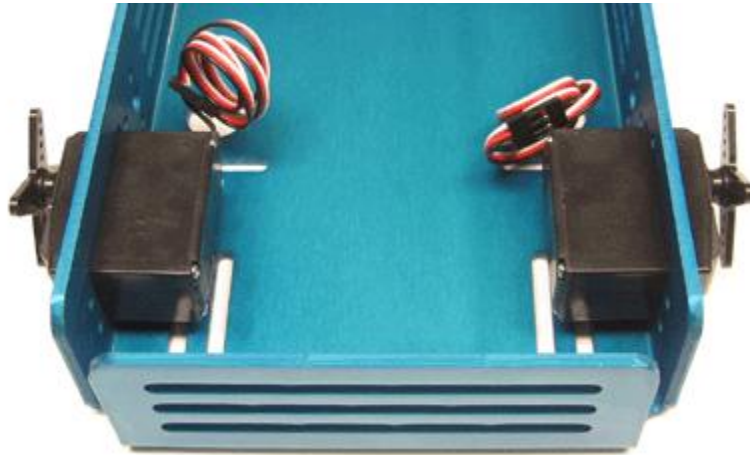

Figure 3. Servo motors correctly positioned in chassis.
1. Insert the servos into the chassis, as shown in Figure 3. **NOTE: Be sure to orient the *servo motors* exactly as shown, with the wires protruding near the two round holes in the chassis.**